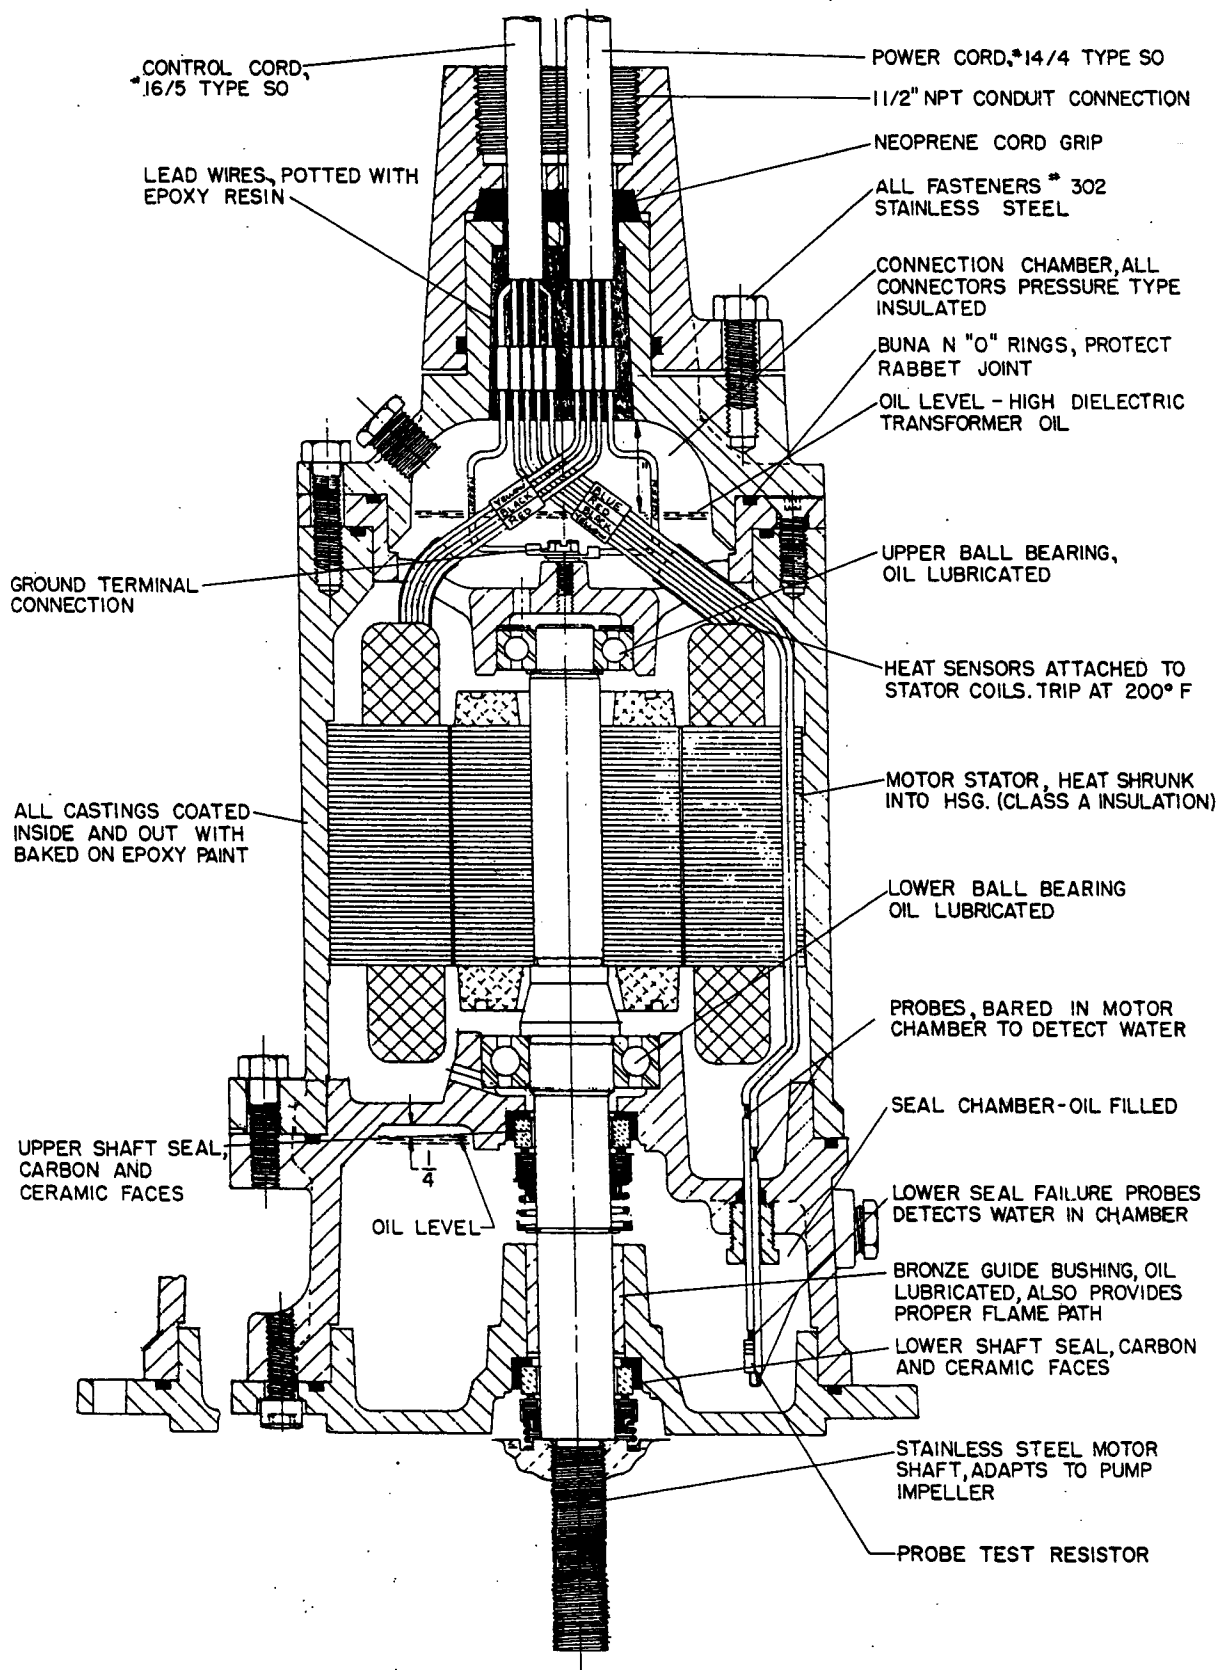

FIG. 1
**GENERAL**—Motor construction meets the Underwriters Laboratories requirements for Class I Group D Hazardous service. Fig 1 shows motor sectional drawing with principle parts called out. Motor chamber and seal chamber are oil filled for heat transfer and for lubrication of bearings and seals. A high dielectric oil is used and does not require replacement in normal use. Air space is provided above oil level in seal chamber and motor chamber for expansion of the oil on heating. Power lines and control lines are sealed in motor cap with epoxy potting resin.